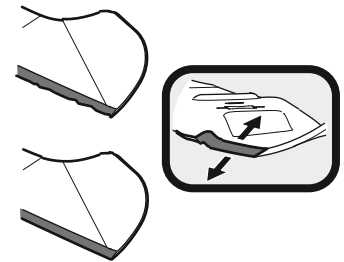

Figure 35
- To properly sharpen the cutting blades, remove equal amounts of metal from both ends of the blades along the cutting edges, parallel to the trailing edge, at a 25° to 30° angle. Always grind each cutting blade edge equally to maintain proper blade balance. See Figure 35.